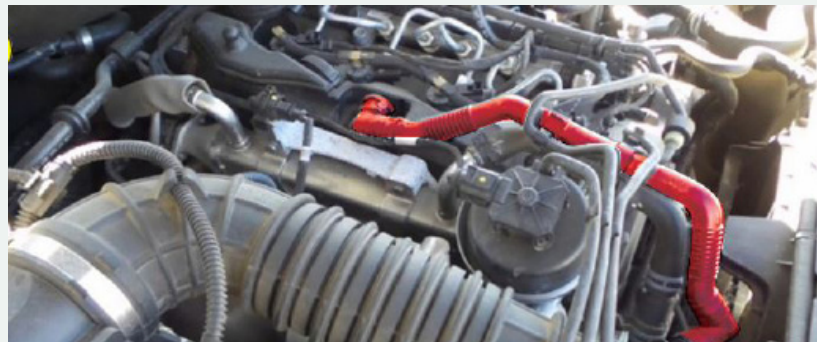

FIGURE 7.2
- 2 Locate the factory PCV valve. Remove the factory rubber ventilation hose and store for safe keeping, as shown in Fig 7.2.